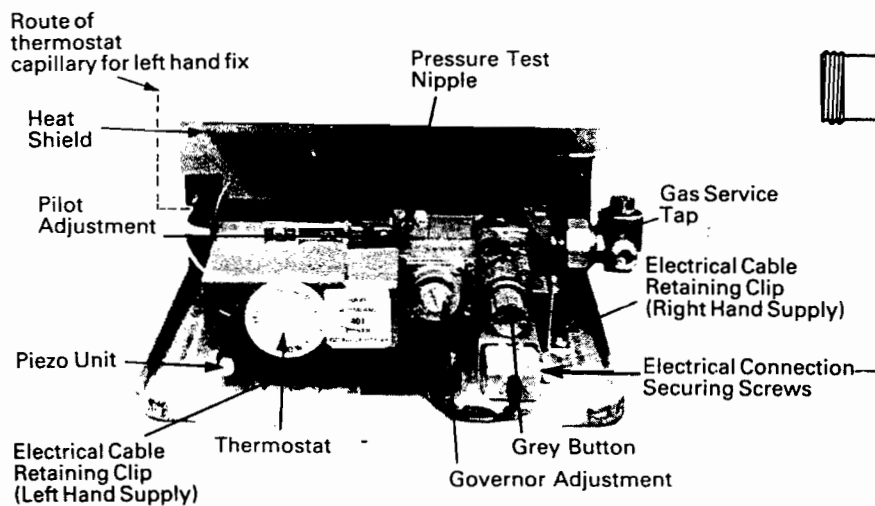

Fig. 7. Boiler Controls
- Route the thermostat capillary under the heat shield and up the left hand side (Fig. 7). The thermostat phial now fits in the pocket at the LEFT HAND SIDE IN THE LOWER SECTION.
9. Hold in the grey button on the gas control valve (Fig. 7).